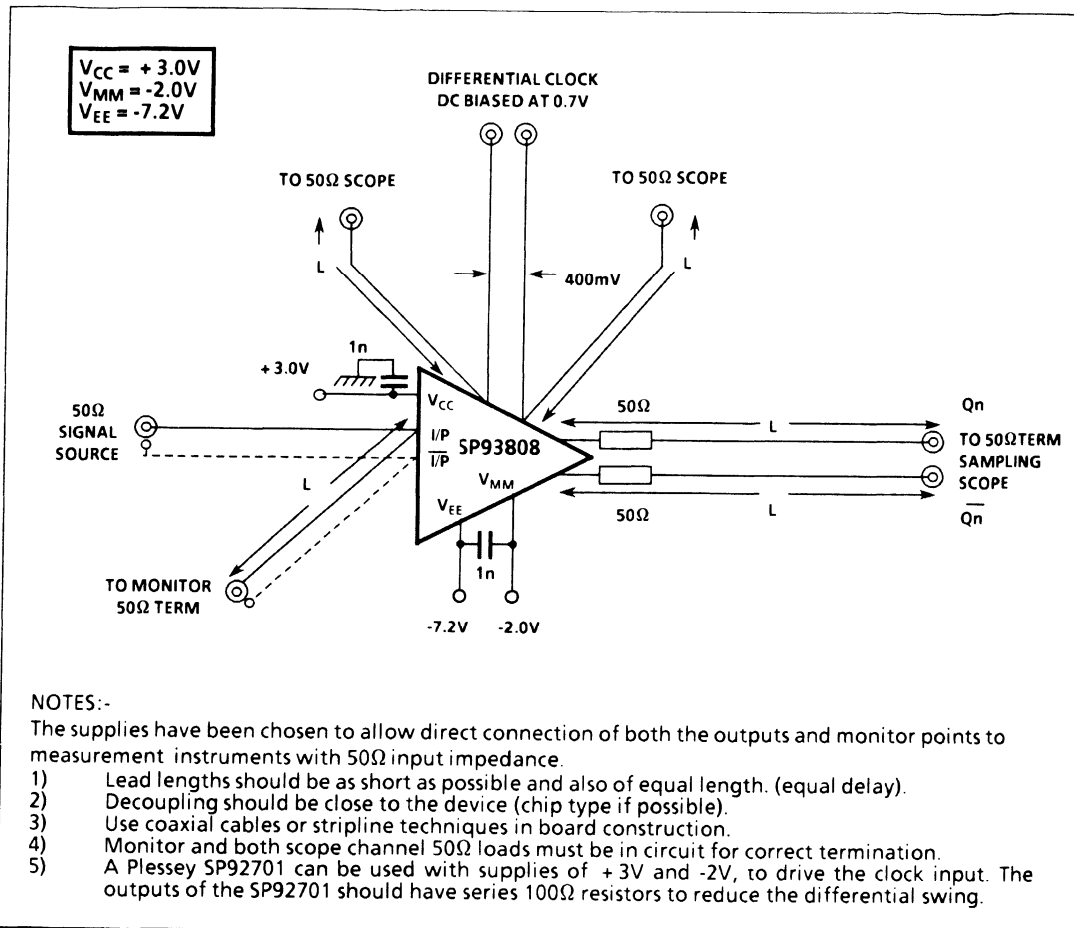

Fig.9 Comparator dynamic test circuit (one channel)
1. SET is the input to the glitch capture circuit and is logically the same as the Q output from the comparator, see Fig.9.
See dynamic test circuit Fig.9.